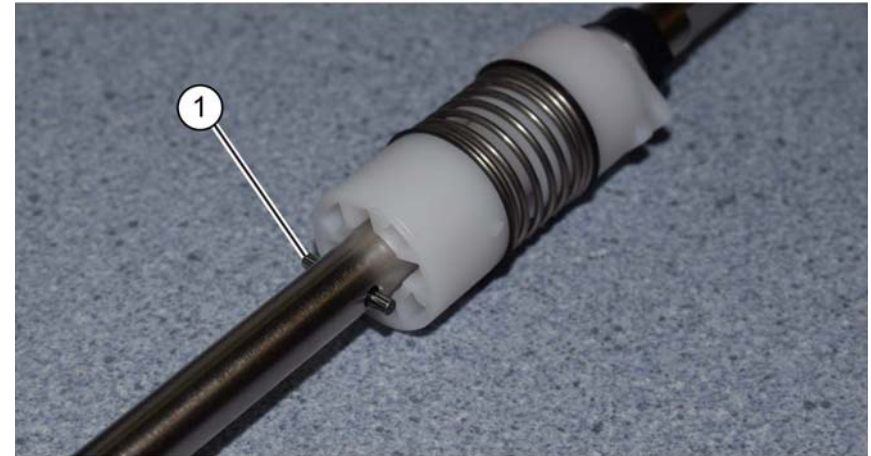

Figure 5 Pin
2. Ensure the brake securing pin (1) is installed correctly, Figure 5.